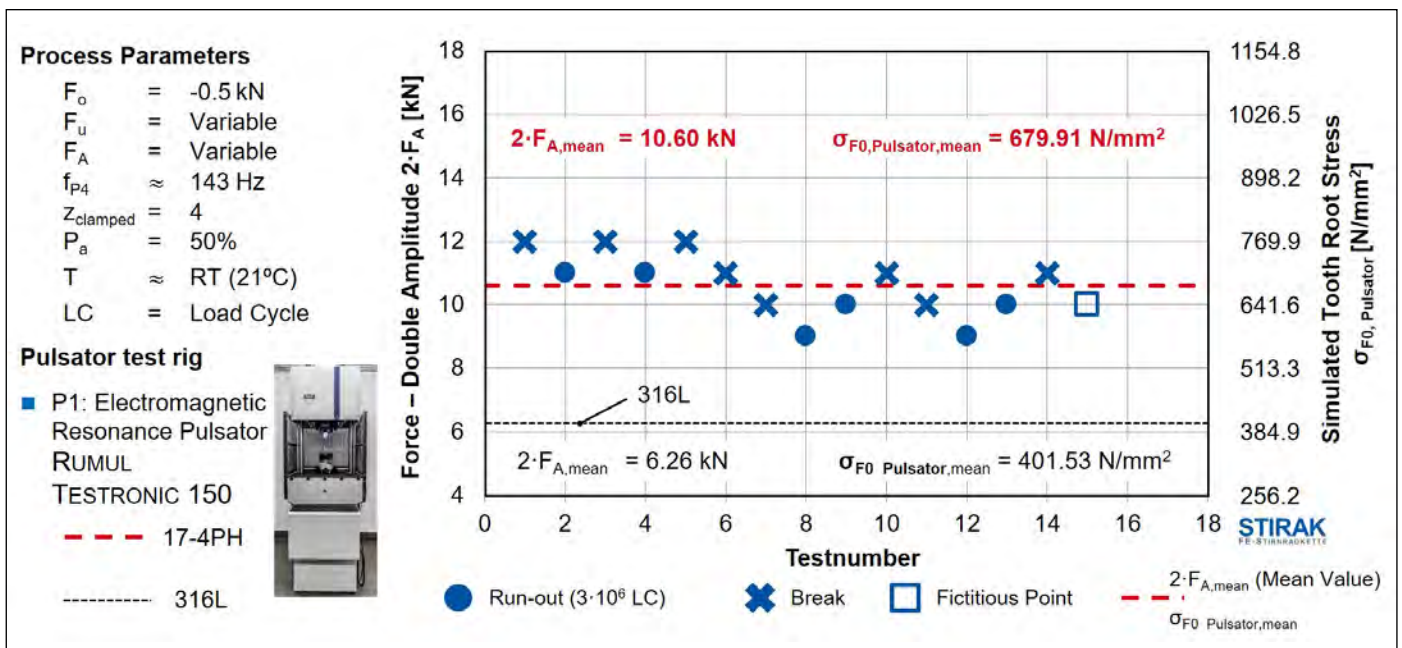

Figure 9—Fatigue limit for BJT gears according to Hück (Ref. 15).
In order to describe the tooth root load capacity, 14 tests were performed at the transition to the fatigue strength load range using the stair-step method (Ref. 9). The staircase method was evaluated according to Hück (Ref. 15). The load step of the fatigue strength range of the BJT gears is shown in Figure 9. The fictitious point formed the 15th test point. The load step increase per double amplitude was $\Delta F_A = 1 \text{ kN}$. The ratio of step jump and standard deviation was calculated according to Hück (Ref. 15). The limiting number of oscillations for the tooth root load capacity is set to $N_G = 3 \cdot 10^6$ load cycles (LC) according to DIN ISO 6336 part 3 (Ref. 16).